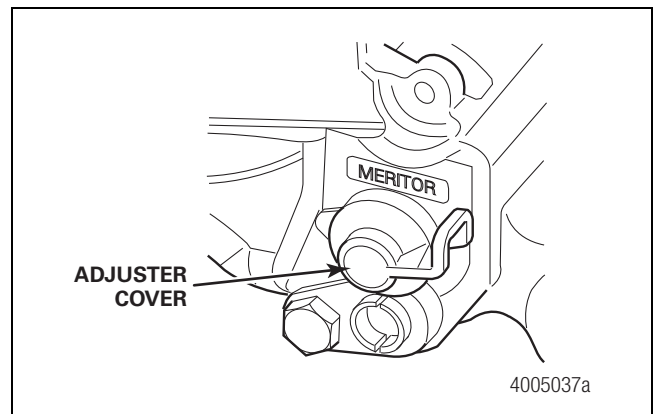

Figure 4.1
1. Remove the adjuster cover. Figure 4.1.